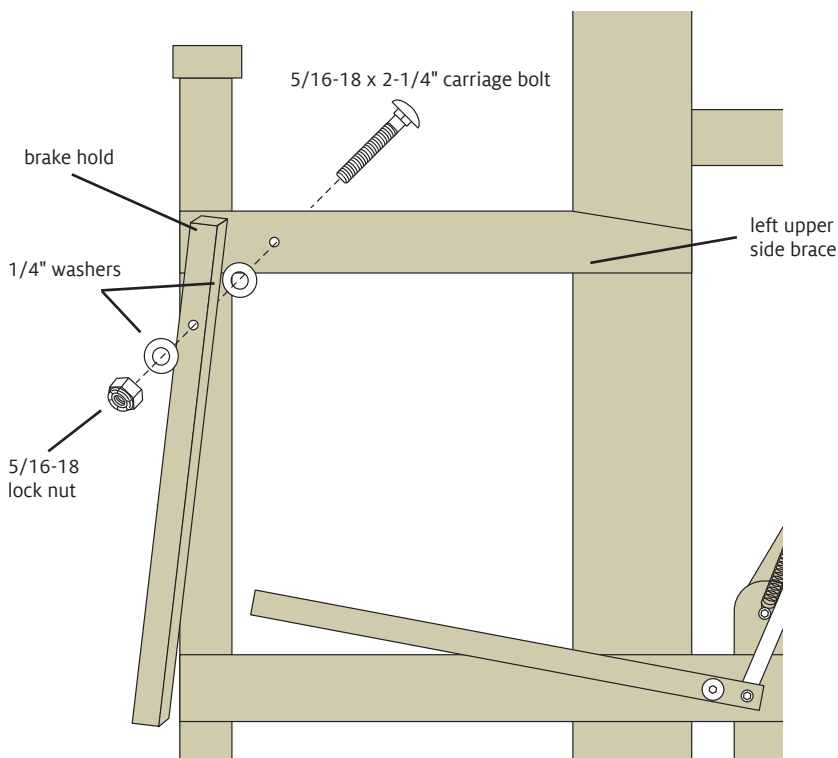

FIGURE 8: INSTALL BRAKE HOLD
20. Locate the hole in the left upper side brace for the brake hold bolt (Figure 8). If your loom was built before June 2019, enlarge the hole with a drill and a 5/16" drill bit.